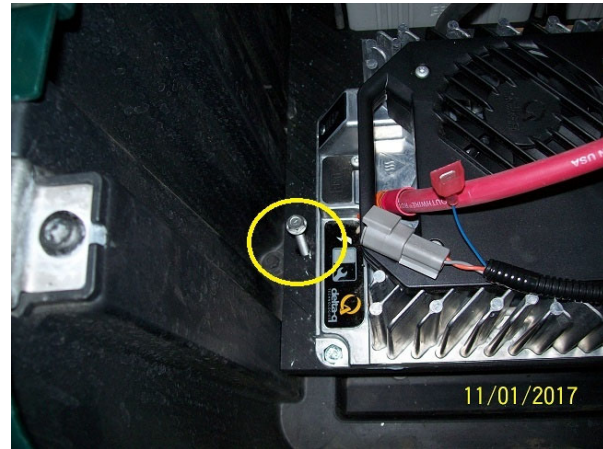

Fig. 19- Self-tapping screws
7. Using the supplied (4) $\frac{1}{4}$ " x 4" stainless self-tapping; self-drilling screws (Fig. 19), secure the lithium battery pack to the vehicle's frame. There are four predrilled holes located in the bottom piece of the lithium battery pack tray. An impact driver is highly recommended in the process of drilling these screws into the frame.